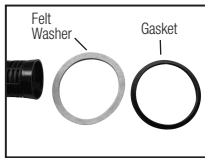

Figure 5
6) **Pressure Chamber Housing Gasket and Felt Washer:** Slide both the gasket and felt washer off the pressure chamber body (Figure 5). Replace felt washer first taking care not to fold over washer as it is worked up the pump chamber and into the pump locking ring (figure 6). The felt washer is pre-lubricated to provide lubrication between the pressure chamber housing and pressure chamber housing gasket. Insure the felt washer is free of contamination before installing. Replace gasket into the pump opening in the tank insuring the flanged end is up (if this is assembled backwards leakage will occur) (Figure 7). Insure that the sides of the gasket are inside the tank pump opening and the flange is sitting level on the tank pump opening seal surface area.